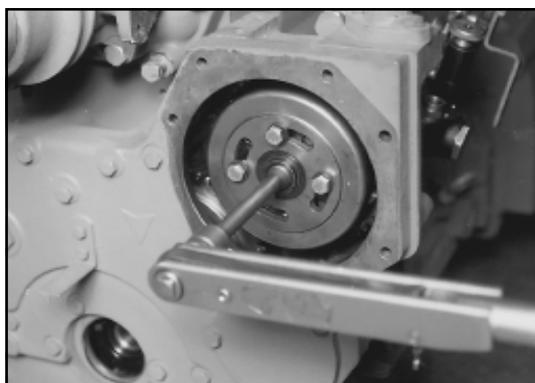

Fig.9-54
- Fully tighten auto timer shaft nut with the special spanner No.4H.950.09.0 Fig.9-54